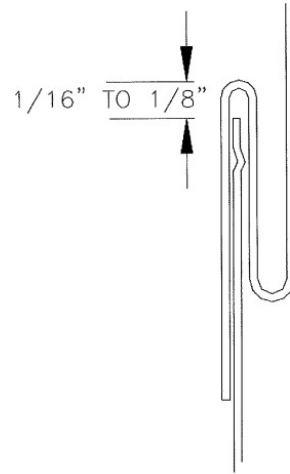

Figure 7
- Place the raw edge of the second panel into the grip-lock of the first panel, maintaining a clearance of approximately 1/16" to 1/8" to allow for panel movement during transit and thermal expansion (See Figure 7)